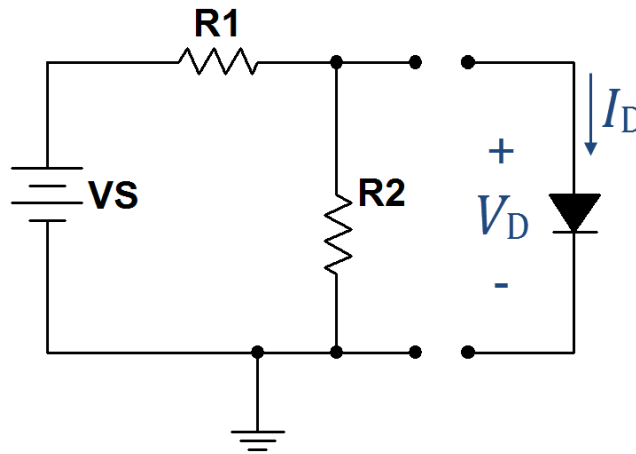

Figure 1.3: Circuit for Problem 1.3
The diode in the circuit of Figure 1.3 is forward-biased and modelled by the simplified Shockley equation $I_D = I_S e^{V_D/nV_T}$ where I_S is the scale current, n is the ideality factor, and V_T is the thermal voltage.
2. Connect the remaining circuit of Figure 1.3 on the facing page to the diode and run a DC operating point analysis to determine the diode's Q -point I_{DQ} and V_{DQ} .
2. Connect the remaining circuit of Figure 1.3 on page 22 to the diode. Use the variable voltage source of Figure B.2 on page 172 adjusted to the value of V_S stated in the problem statement. Use the NI myDAQ multimeter to measure the diode’s Q -point I_{DQ} and V_{DQ} .